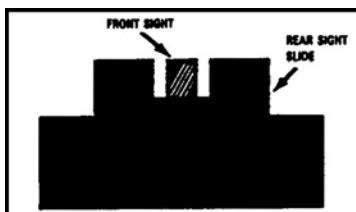

Figure 1. Sight Alignment.
- a. Obtain sight alignment by centering the front sight blade in the aperture of the rear sight with the top of the front sight blade even with the top of the rear sight slide (Figure 1).